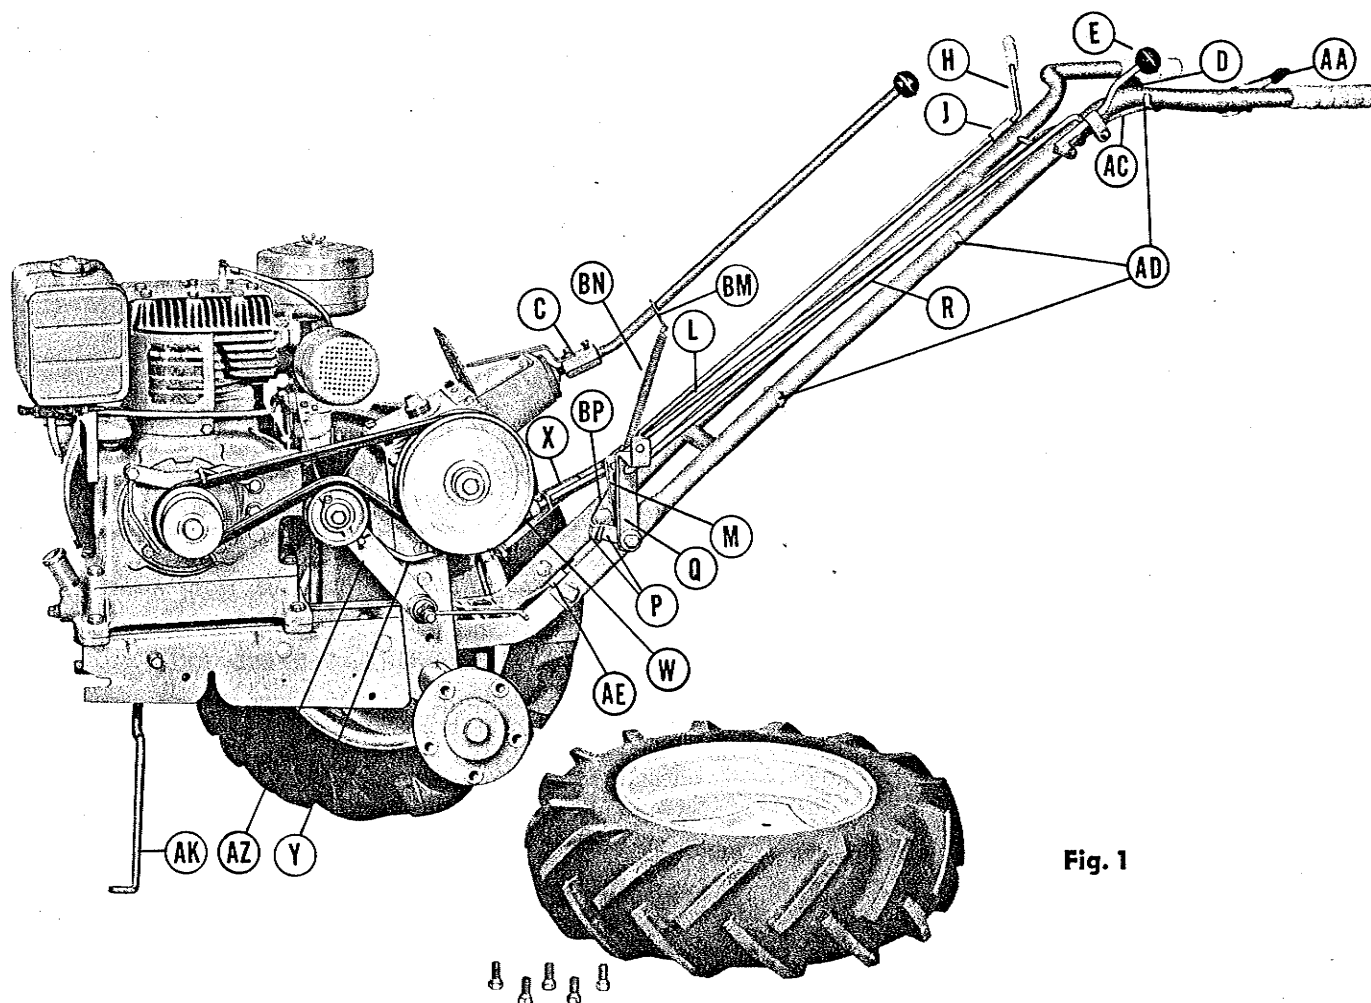

Fig. 1
Before starting assembly, remove all parts from both packages. Refer to Fig. 1 for tractor assembly.
12. **IMPORTANT** — Be sure to adjust rod guide (J), Fig. 1, with nut so that its nylon liner will exert pressure on shift rod (H). This adjustment must be properly maintained to insure that the two speed axle will stay in the speed range selected.